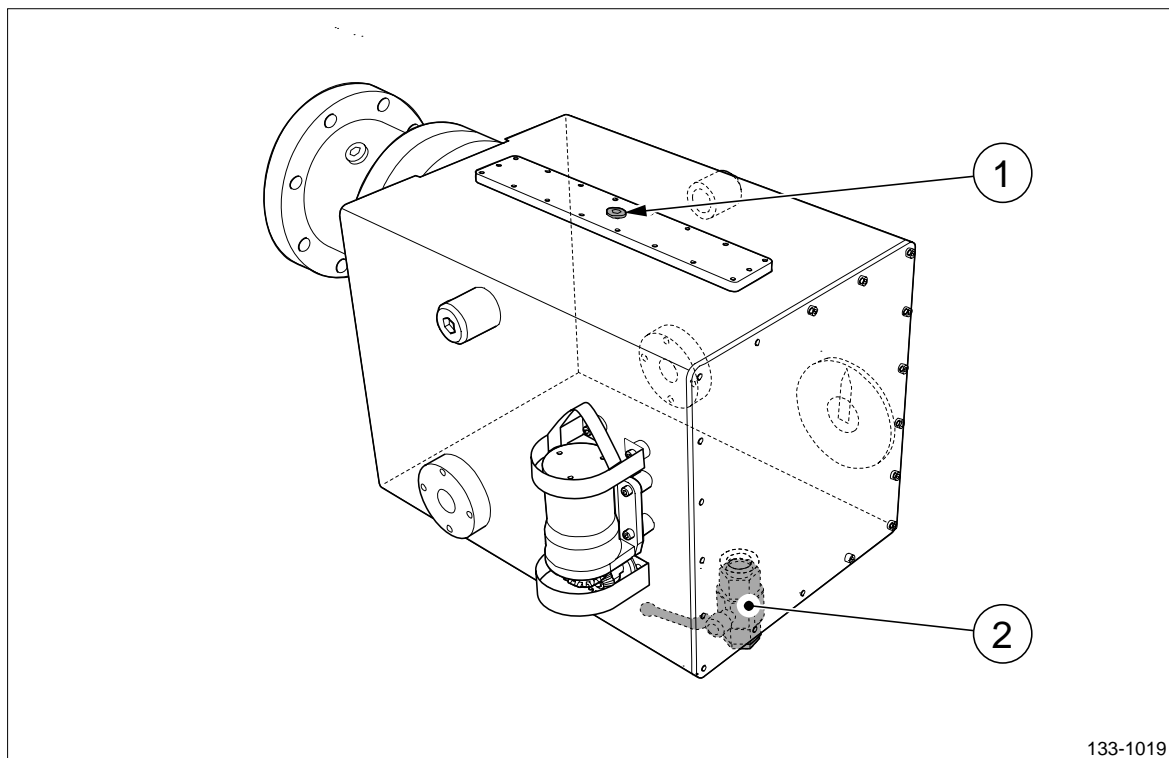

Figure 7 The OD-box drain valve.
7. Place a container under drain valve T on the OD-box (pos 2, figure 7).
9. Remove plug (pos 2, figure 7) to allow air to flow into the OD-box.